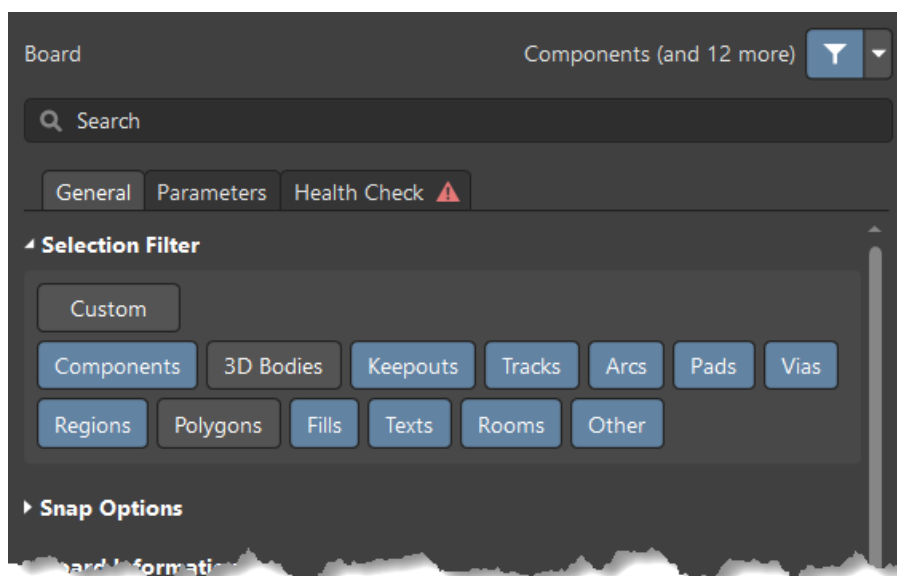

Figure 2. Configuration for the Selection Filter
- Ensure that the Selection Filter is set as shown in Figure 2 below. The same pre-selection filter can also be accessed from the *Active Bar*.